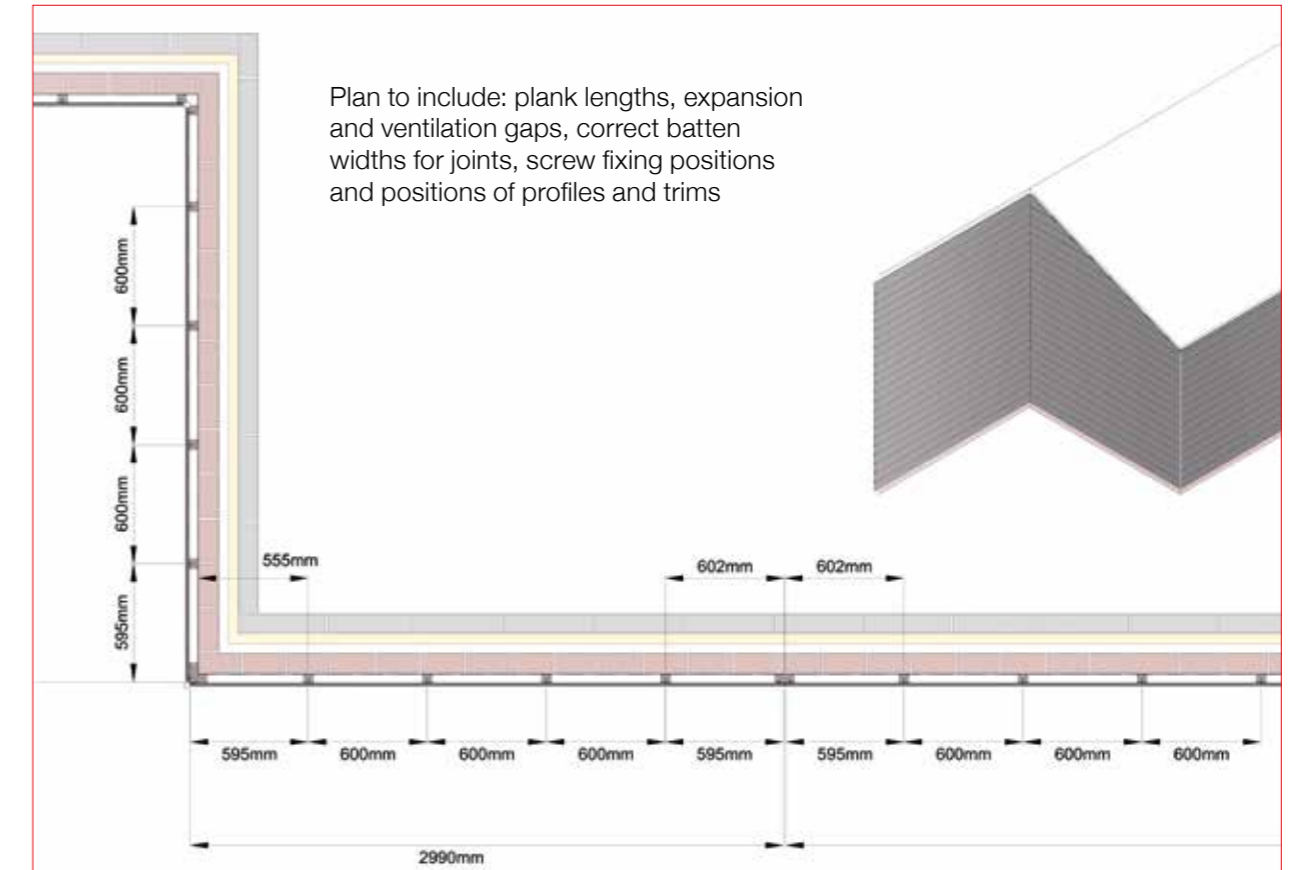

fig.3 – Cladding plan example
- Cladding design plan (see fig. 3)
- It is important to create a cladding plan in advance, to ensure framing positions are correct to match cladding fixing points (see example in fig.3)